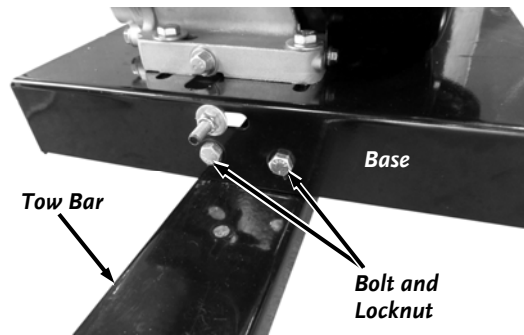

Figure 9
4. Position the Tow Bar under the Base and secure the front Bracket with 3/8-16 x 1" Bolts and Locknuts using two 9/16" Wrenches (**Figure 9**).